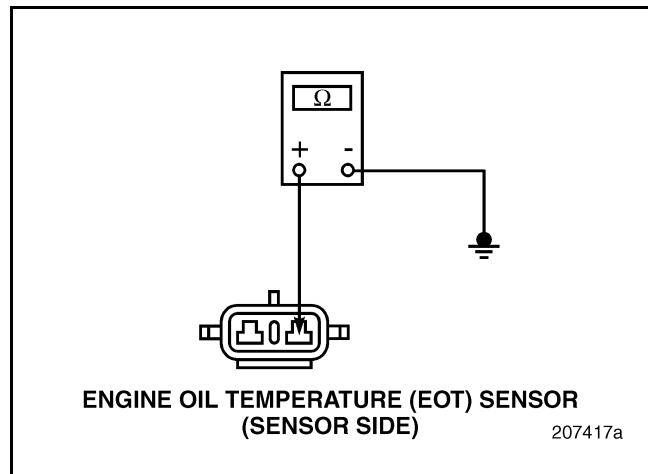

Figure 265
3. Check for continuity between either pin of the EOT Sensor and a good ground (see Figure 265).